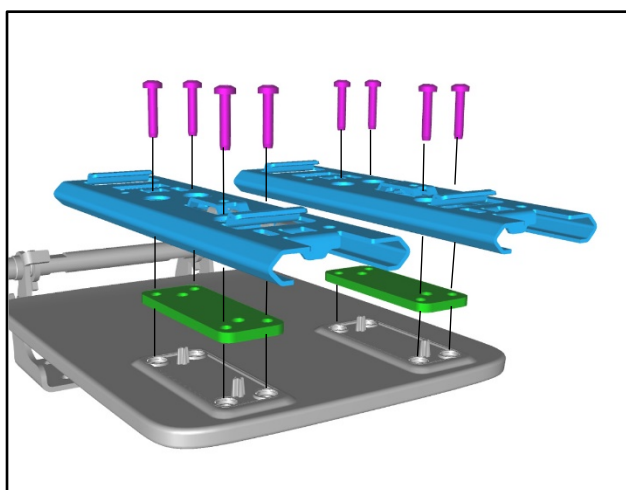

Figure 29
19. Apply force as illustrated (refer to Figure 28), and secure the clips (refer to Figure 29).
20. Install the rails and spacers blocks. Install the eight fixings (refer to Figure 29).